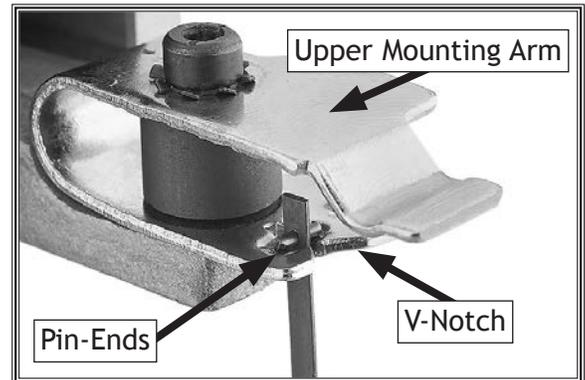

Figure 11. V-notch indent.
4. Verify blade pins are seated in V-notch indents, as shown in **Figure 11**.